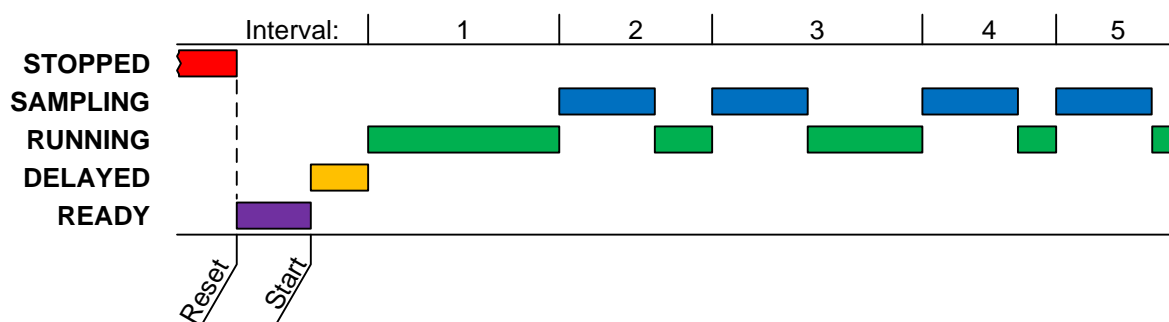

Figure A-3: Basic Sample Timing Diagram
- If a non-zero value (up to 9999 minutes) has been assigned to the Delay Start run Option (see page 43), the first sampling interval will be further delayed by that many minutes (see Figure A-3 on page 76). Until then, the program will display its operating state as DELAYED.